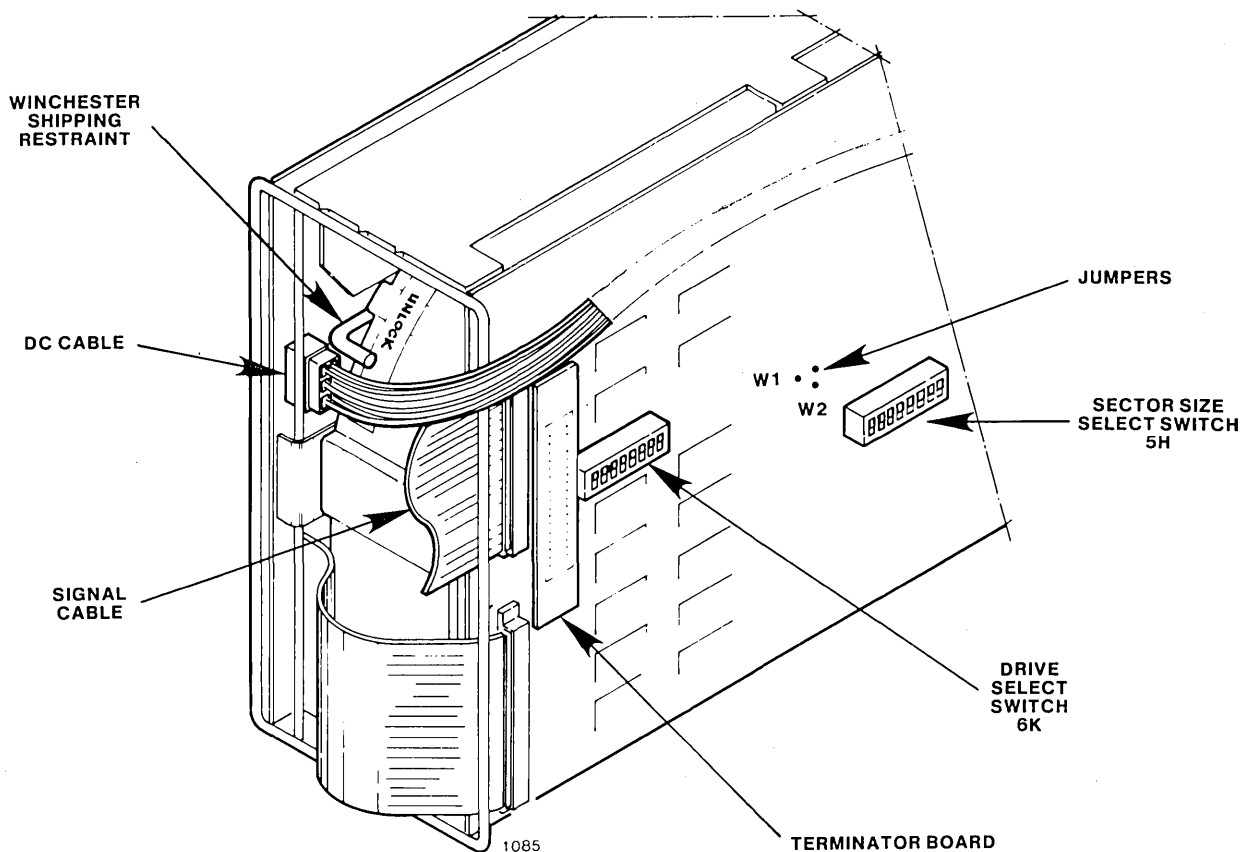

Figure A-1. Drive Select and Terminator Location (PRIAM drive)
- First, disconnect the the signal cable from the front of the existing Winchester drive (refer to Figure A-1 for location of the signal cable on a PRIAM Winchester drive).
9. Remove the terminator board from the existing Winchester drive and ensure that a terminator board is installed properly onto the additional drive. The terminator board is required on only the last drive on the daisychain cable (in this instance, the new drive is the "last" drive) and is normally installed in the drive when it is shipped from the factory. Refer to Figure A-1 for an approximate location of the terminator board.